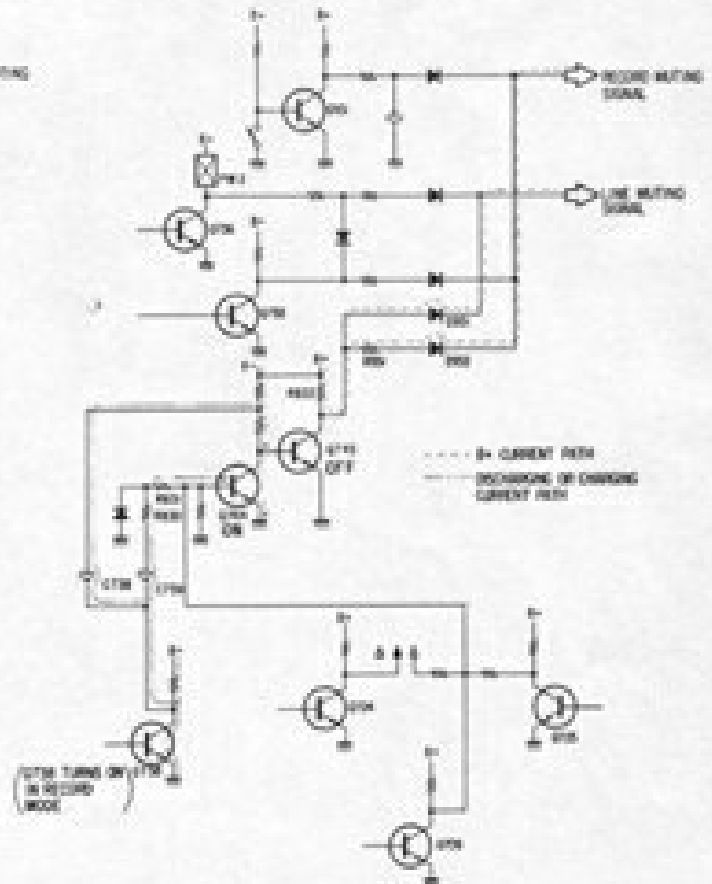

Fig. 1-13 Stop Mode - Record Mode
5. STOP mode = record mode, or record mode = STOP mode (See Fig. 1-13)